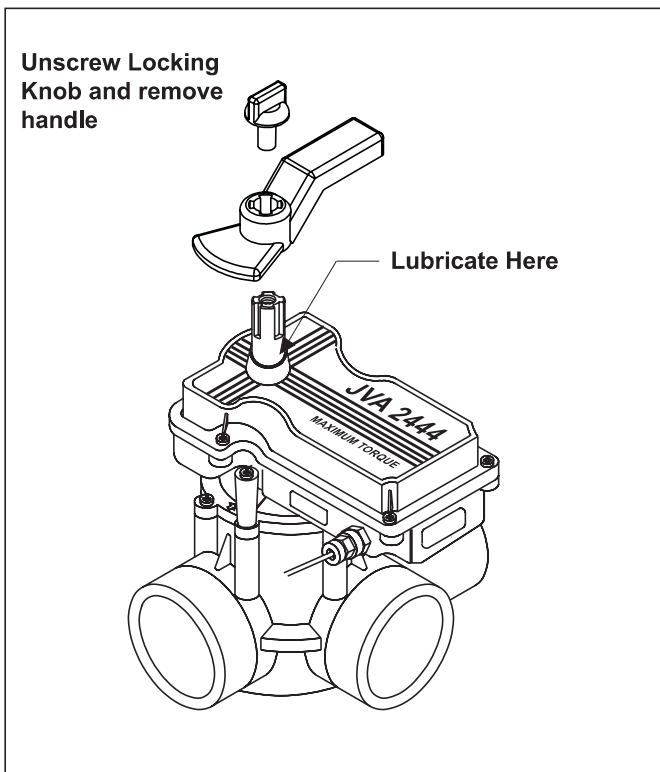

Figure 13. JVA Shaft Seal
2. Remove the locking knob and handle (see Figure 13).
3. Spread a small amount of Jandy Lube or other silicone base lubricant around the actuator shaft just above the lock out ring (see Figure 13).
4. Reinstall handle and locking knob. Only tighten knob one (1) turn.